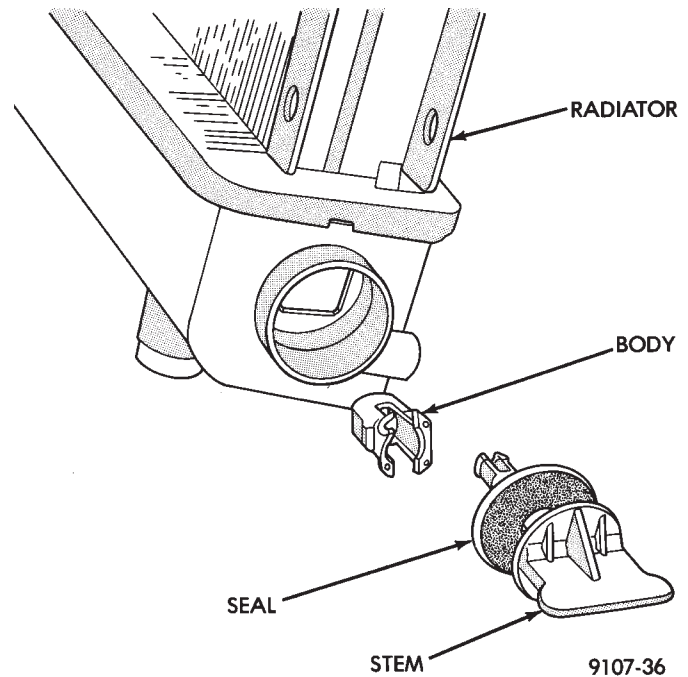

Fig. 1 Draincock Disassembled (Typical)
(1) Turn the drain cock stem counterclockwise to unscrew the stem. When the stem is unscrewed to the end of the threads, pull the stem (Fig. 1) from the radiator tank and draincock body.